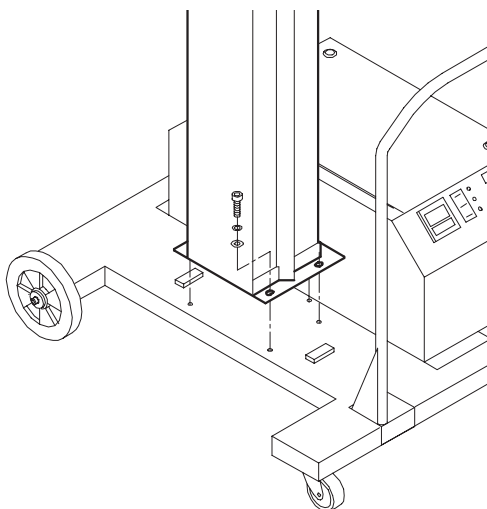

Fig. 3
4. Set up the Column in the Platform group (Fig. 3).